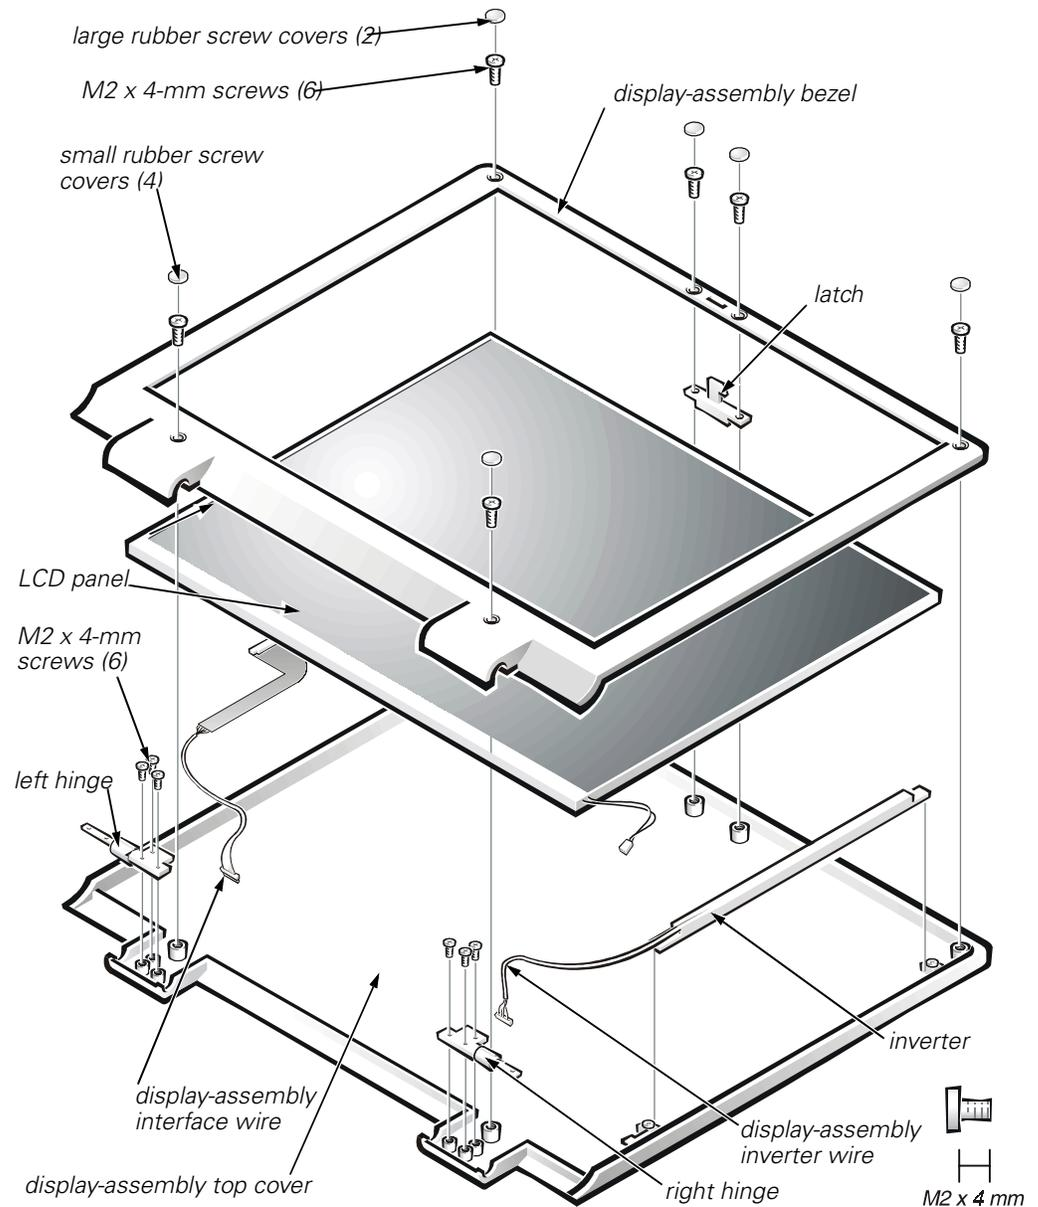
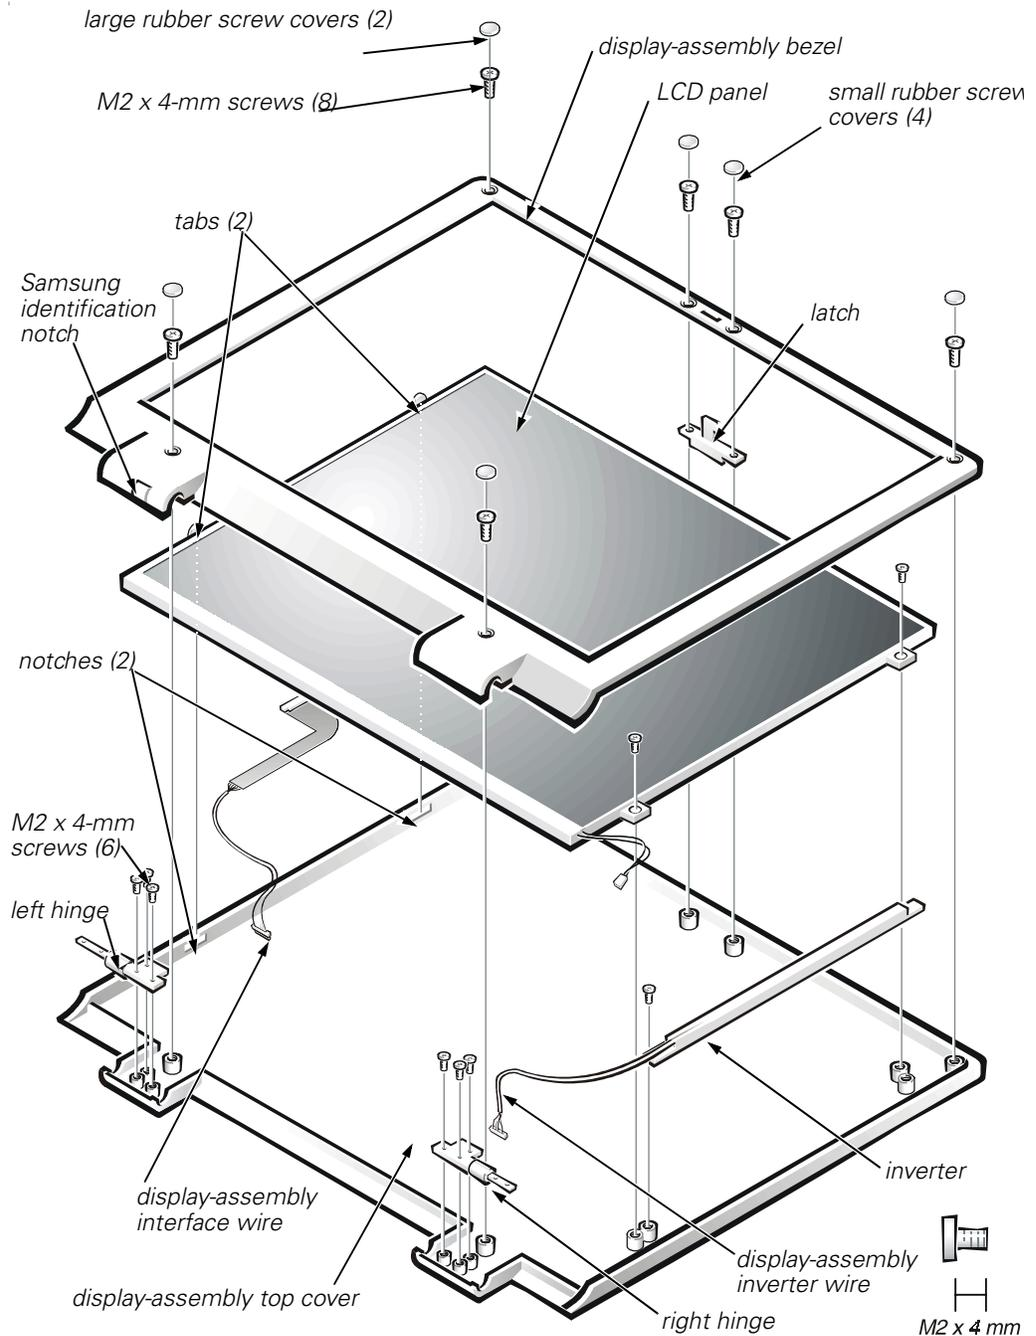

Figure 11. Sharp Display-Assembly Bezel Removal
Figure 12. Samsung Display-Assembly Bezel Removal
On some models, the interface wire is routed under the left hinge. To remove the wire from under the hinge, remove all three M2 X 4-mm screws attaching the left hinge to the display-assembly top cover (see Figure 11). For models that do not route the interface wire under the left hinge, the wire is removed without removing the left hinge.
2. For a Sharp display-assembly bezel, remove the six M2 x 4-mm screws located at the top and bottom of the bezel on the front of the display assembly (see Figure 11). For a Samsung display-assembly bezel, remove
the six M2 x 4-mm screws located at the top and bottom of the bezel on the front of the display assembly (see Figure 12).
1. Remove the Sharp display-assembly bezel (see Figure 11), or the Samsung display-assembly bezel (see Figure 12).
2. Remove the display-assembly latch by sliding the latch from the inside of the display-assembly bezel (see Figure 11).
NOTE: This computer contains an LCD panel manufactured by Sharp or Samsung. The display-assembly bezel and the display-assembly top cover are unique for each manufacturer's LCD panel. When viewed from the back of the computer, there is a notch on the lower-right corner of the hinged edge of the Samsung display assembly (see Figure 12). Close the LCD display assembly and view the back of the computer to identify the Samsung notch.
4. Remove the display assembly bezel (see Figure 11 for a Sharp LCD panel or Figure 12 for a Samsung LCD panel).
5. Remove the inverter (see Figure 11 for a Sharp LCD panel or Figure 12 for a Samsung LCD panel).
8. Disconnect the display-assembly inverter wire connector from the bottom of the inverter (see Figure 11 for a Sharp LCD panel or Figure 12 for a Samsung LCD panel).
4. Remove the old display-assembly top cover and display-assembly bezel (see Figure 11 for a Sharp LCD panel or Figure 12 for a Samsung LCD panel).